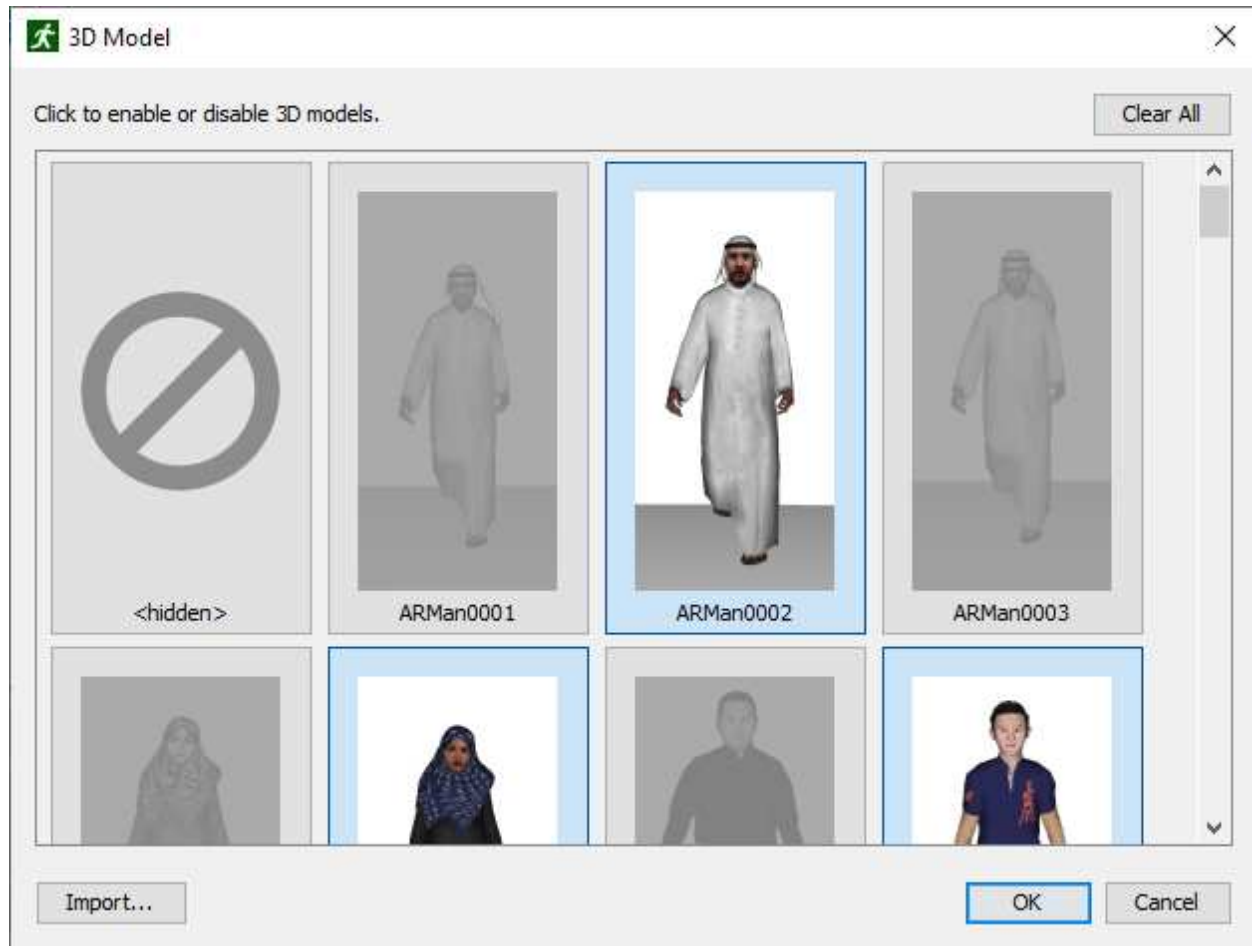

Figure 87. An example of the 3D model dialog.
1. Click **Edit** on the **3D Model** row. This will open the **3D Models** dialog (see Figure 87).